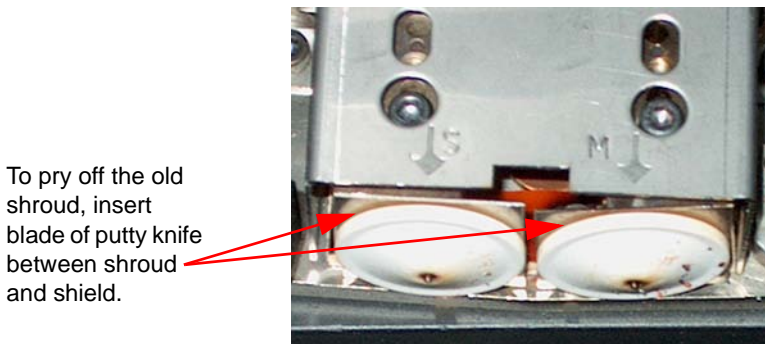

Figure 21: Tip Shroud Removal
2. Position the blade of the putty knife supplied with Start-Up Kit between the Tip Shroud and Tip Shield (Figure 21)